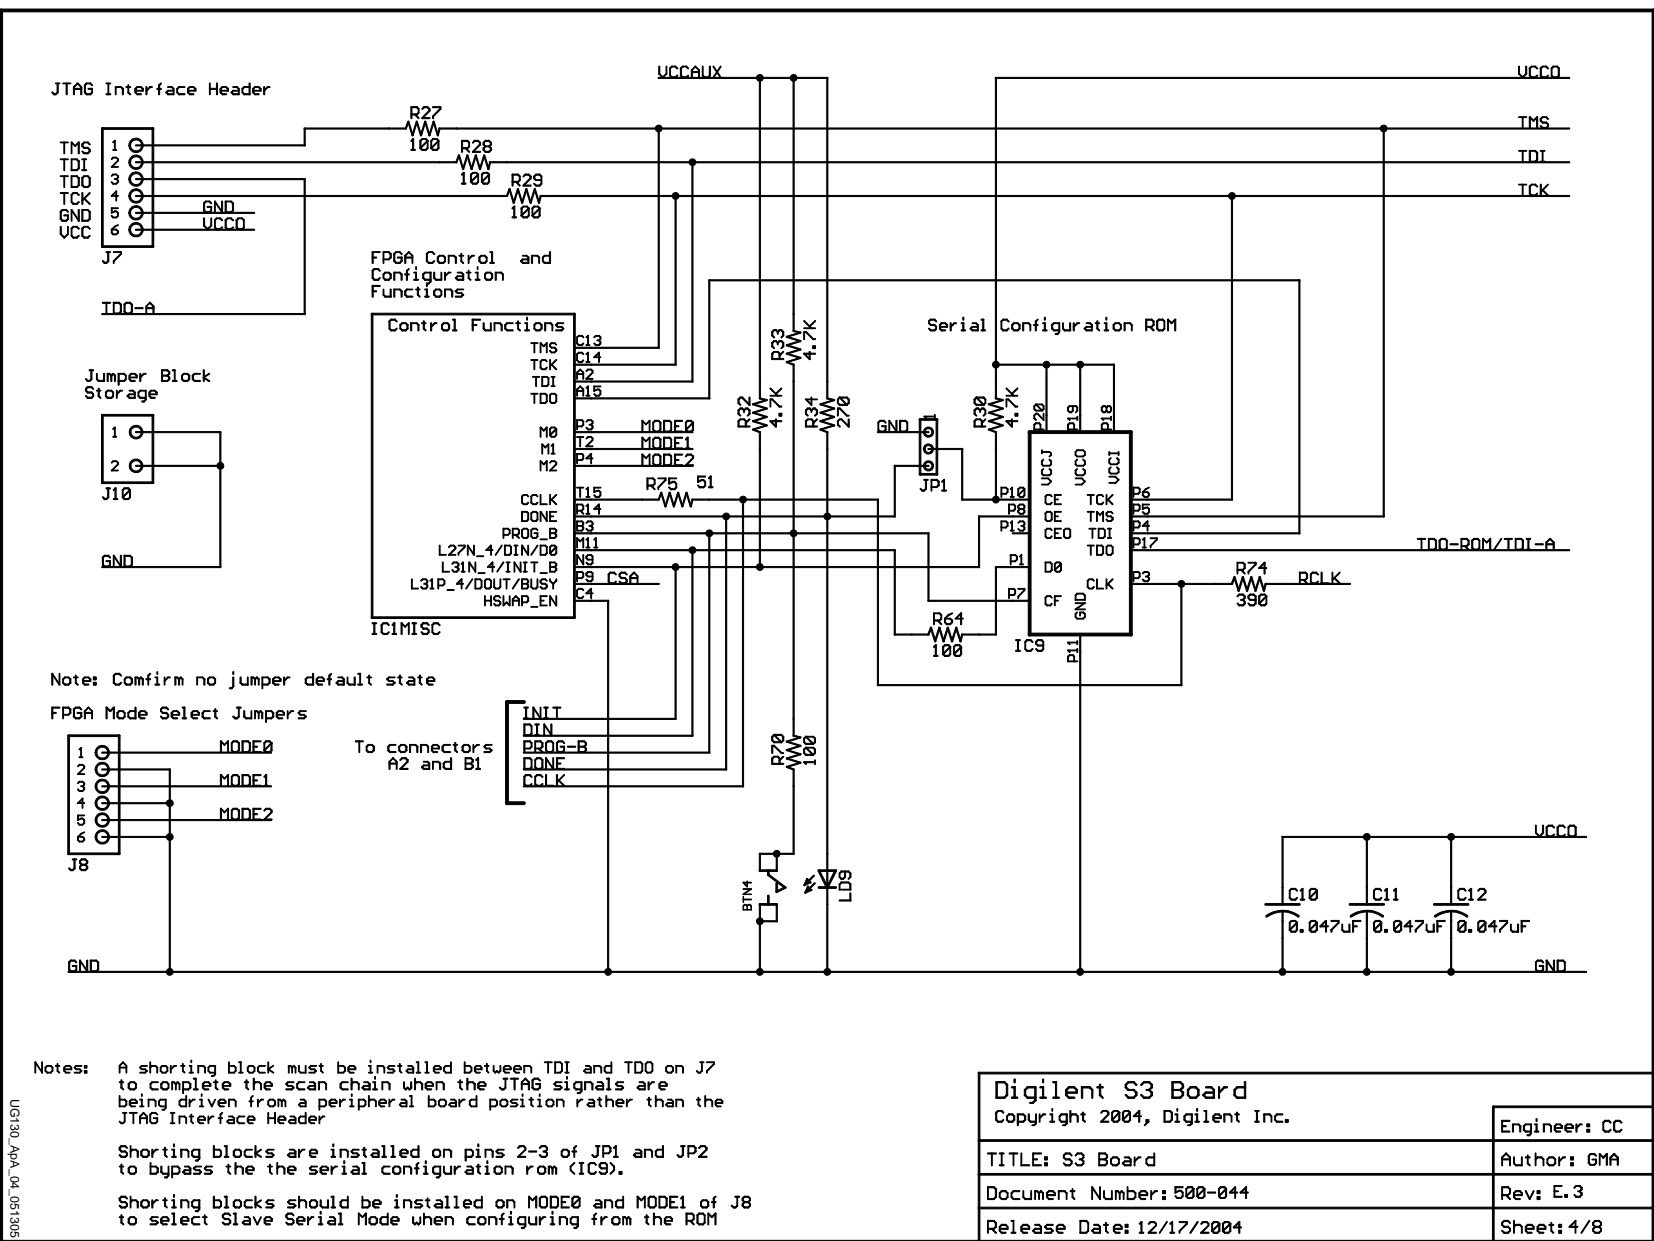

Figure A-4: FPGA Configuration Interface, Platform Flash, JTAG Connections, Jumper JP1
- Figure A-4, "FPGA Configuration Interface, Platform Flash, JTAG Connections, Jumper JP1"